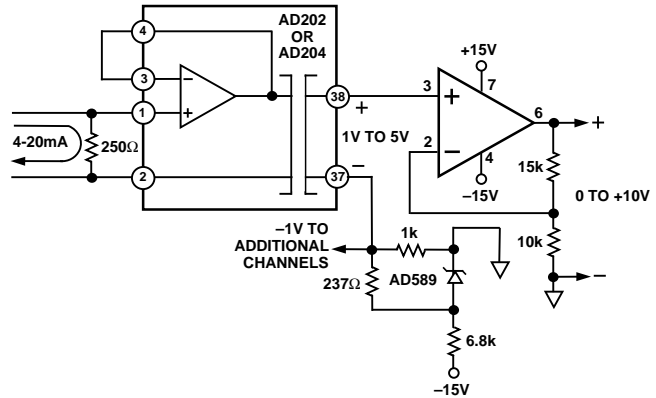

Figure 18. Process Current Input Isolator with Offset
**Process Current Input with Offset.** Figure 18 shows an isolator receiver which translates a 4-20 mA process current signal into a 0 V to +10 V output. A 1 V to 5 V signal appears at the isolator's output, and a -1 V reference applied to output LO provides the necessary level shift (in multichannel applications, the reference can be shared by all channels). This technique is often useful for getting offset with a follower-type output buffer.